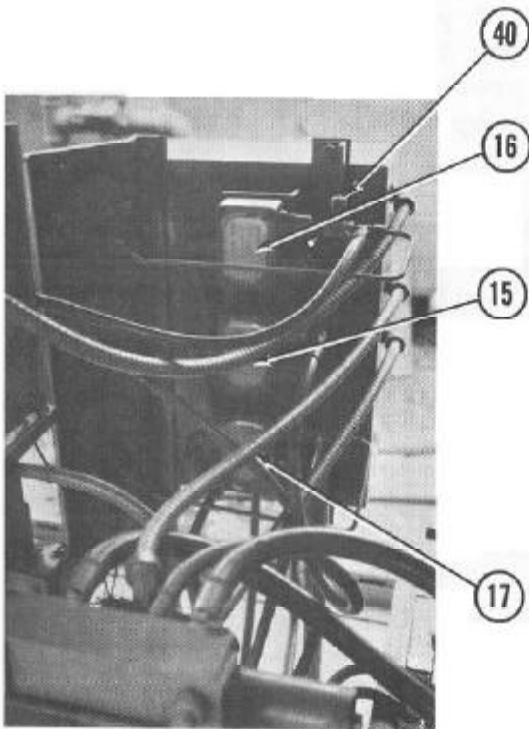

FIG. 21
- (1) Boost pressure switch (No. 16 on Fig. 21 or PS-1 on Fig. 35, Page 73) 40 ± 05 psi.
- (2) Clamp pressure switch (No. 15 on Fig. 21 or PS-2 on Fig. 35) 1900 ± 100 psi.